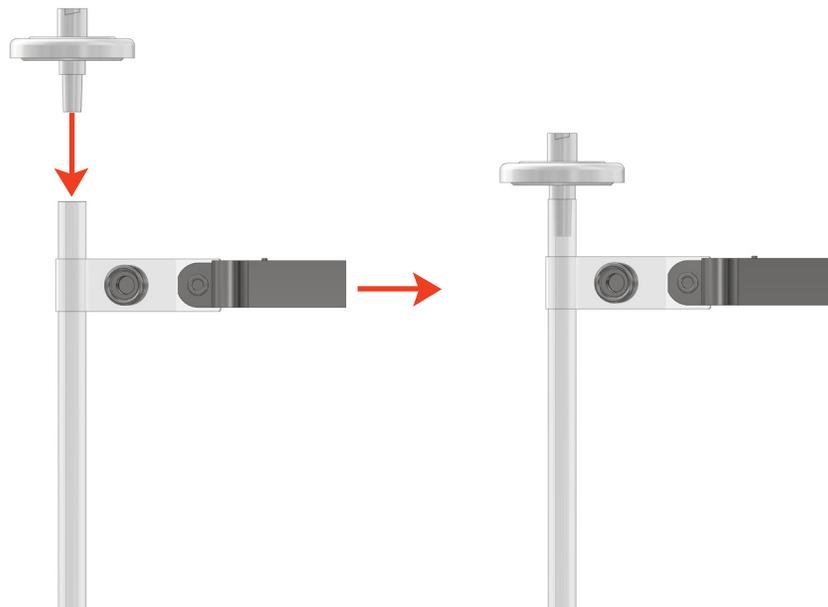

Figure 11: Insertion of particulate filter into breathing zone inlet flexible tubing
5. Make sure a particulate filter is mounted on the accessory's inlet end. (See figure 11, page 12)